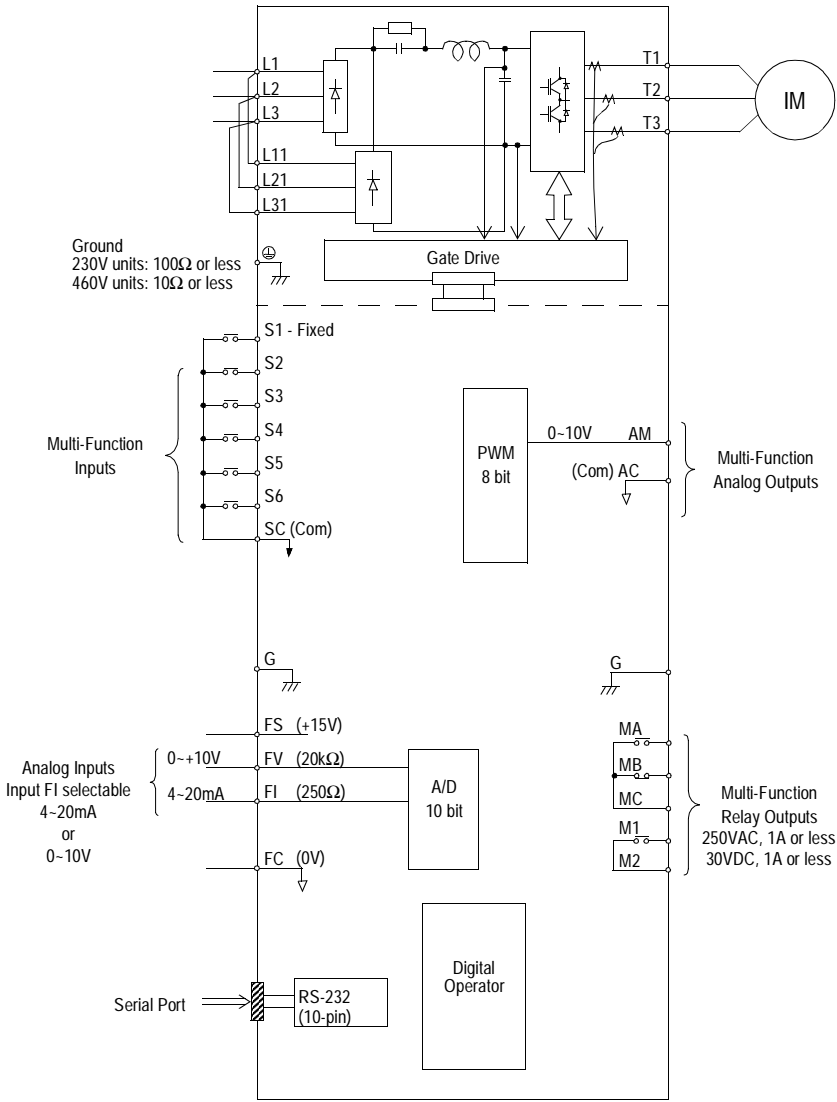

Figure 10 VS-616P5 Terminal Diagram
- When using several VS-616PC5/P5 units side by side, ground the units as shown in Figure 10, (a) or (b). Do not loop the wires as shown in (c).